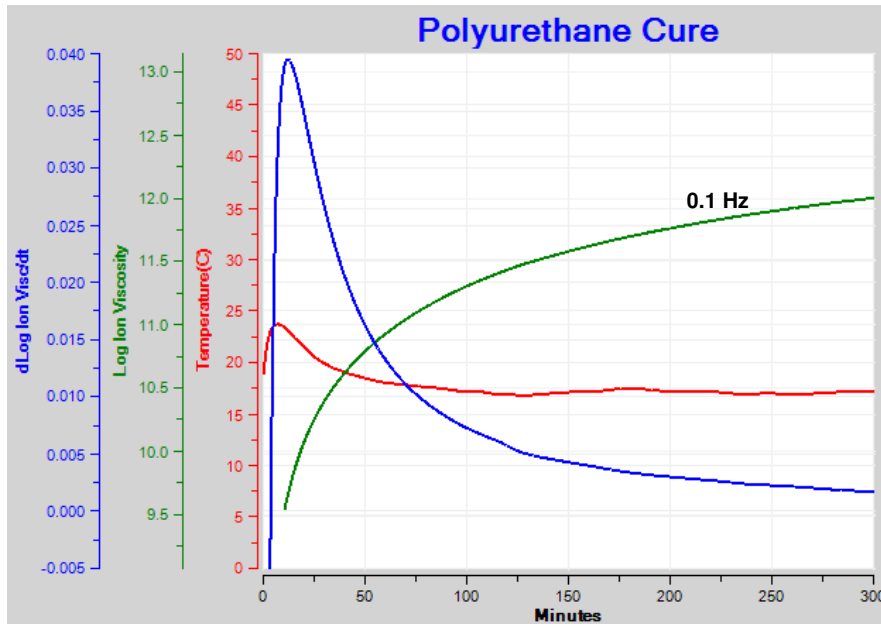

Figure 8
- Do use ion viscosity from a single, optimum frequency—if possible—to calculate slope, as shown in Figure 8